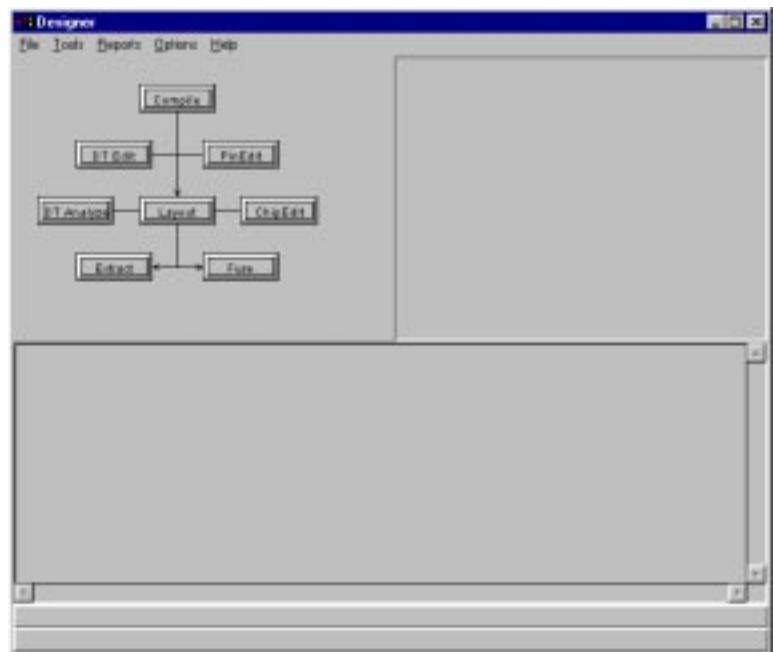

Figure 6-1. Designer Main Window
1. **Invoke Designer.** The Designer Main window is displayed (see Figure 6-1 on page 63).